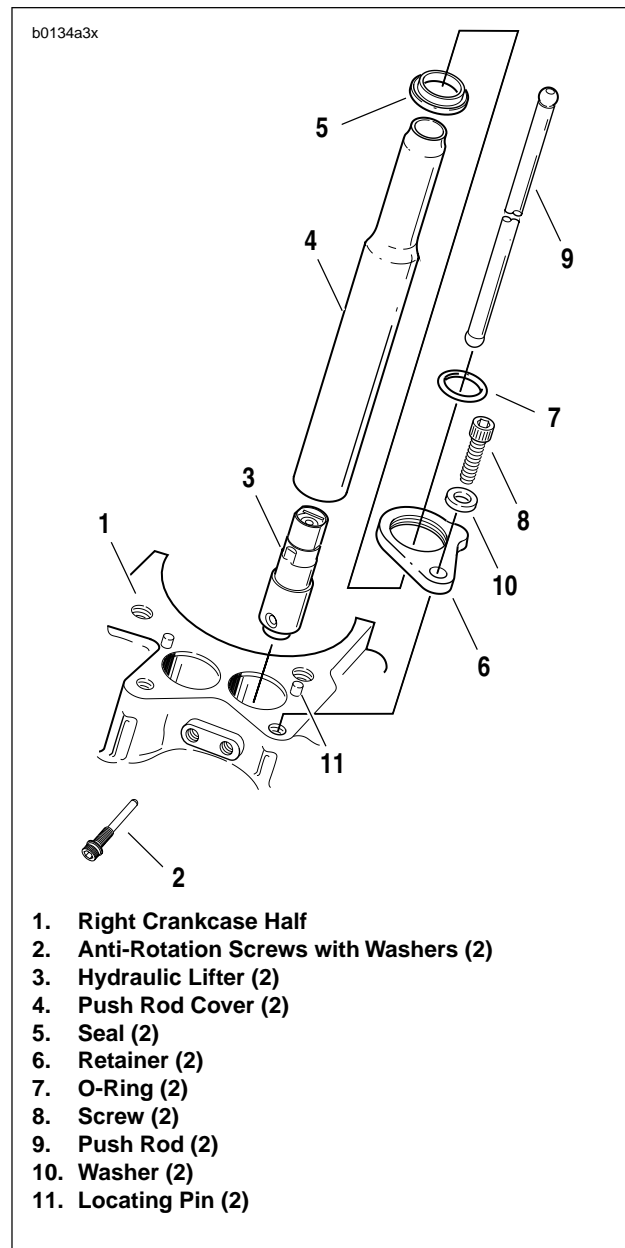

Figure 3-61. Hydraulic Lifter Service
3. See Figure 3-61. Remove both push rod covers (4).
- a. Remove screw (8) and washer (10).
- b. Lift retainer (6) and seal (7) upward a few inches on push rod cover (4).
4. Remove both hydraulic lifters (3).
- a. Remove two anti-rotation screws with washers (2).
- b. Remove lifters (3) from crankcase bore using a thin-bladed screwdriver. Mark the location and orientation (front/back) of each lifter.
3. See Figure 3-61. Insert lifter (3) into bore in crankcase (1) with lifter oil hole facing towards the oil trough. Rotate lifter so that flats at upper end of lifter faces the front and rear of the engine. If the lifter is installed incorrectly, anti-rotation screws (2) cannot be inserted.
- a. Insert anti-rotation screws with washers (2) in the threaded holes in crankcase.
- a. Slide **new** seal (5) and retainer (6) over top of push rod cover (4).
- b. Position **new** O-ring (7) at top of push rod cover.
- d. Lower retainer (6) with seal (5) onto crankcase, aligning locating pin (11) with hole in retainer.
- e. Insert screw (8) with washer (10) through hole in retainer (6). Thread screw (8) into tapped hole in crankcase. Tighten screw to 15-18 **ft-lbs** (20-24 Nm).